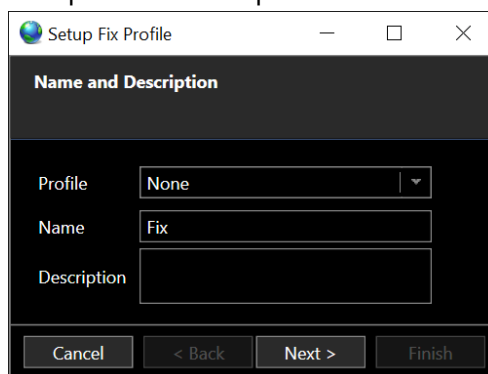

FIGURE 14-104 POSITION FIXES - SETUP FIX PROFILE – NAME AND DESCRIPTION PAGE
- a. Selecting **New** in Position Fixes, Data Ribbon. This will open the Setup Fix Profile wizard (see Figure 14-104)
Click the button to open the Setup Fix Profile wizard (see Figure 14-104)